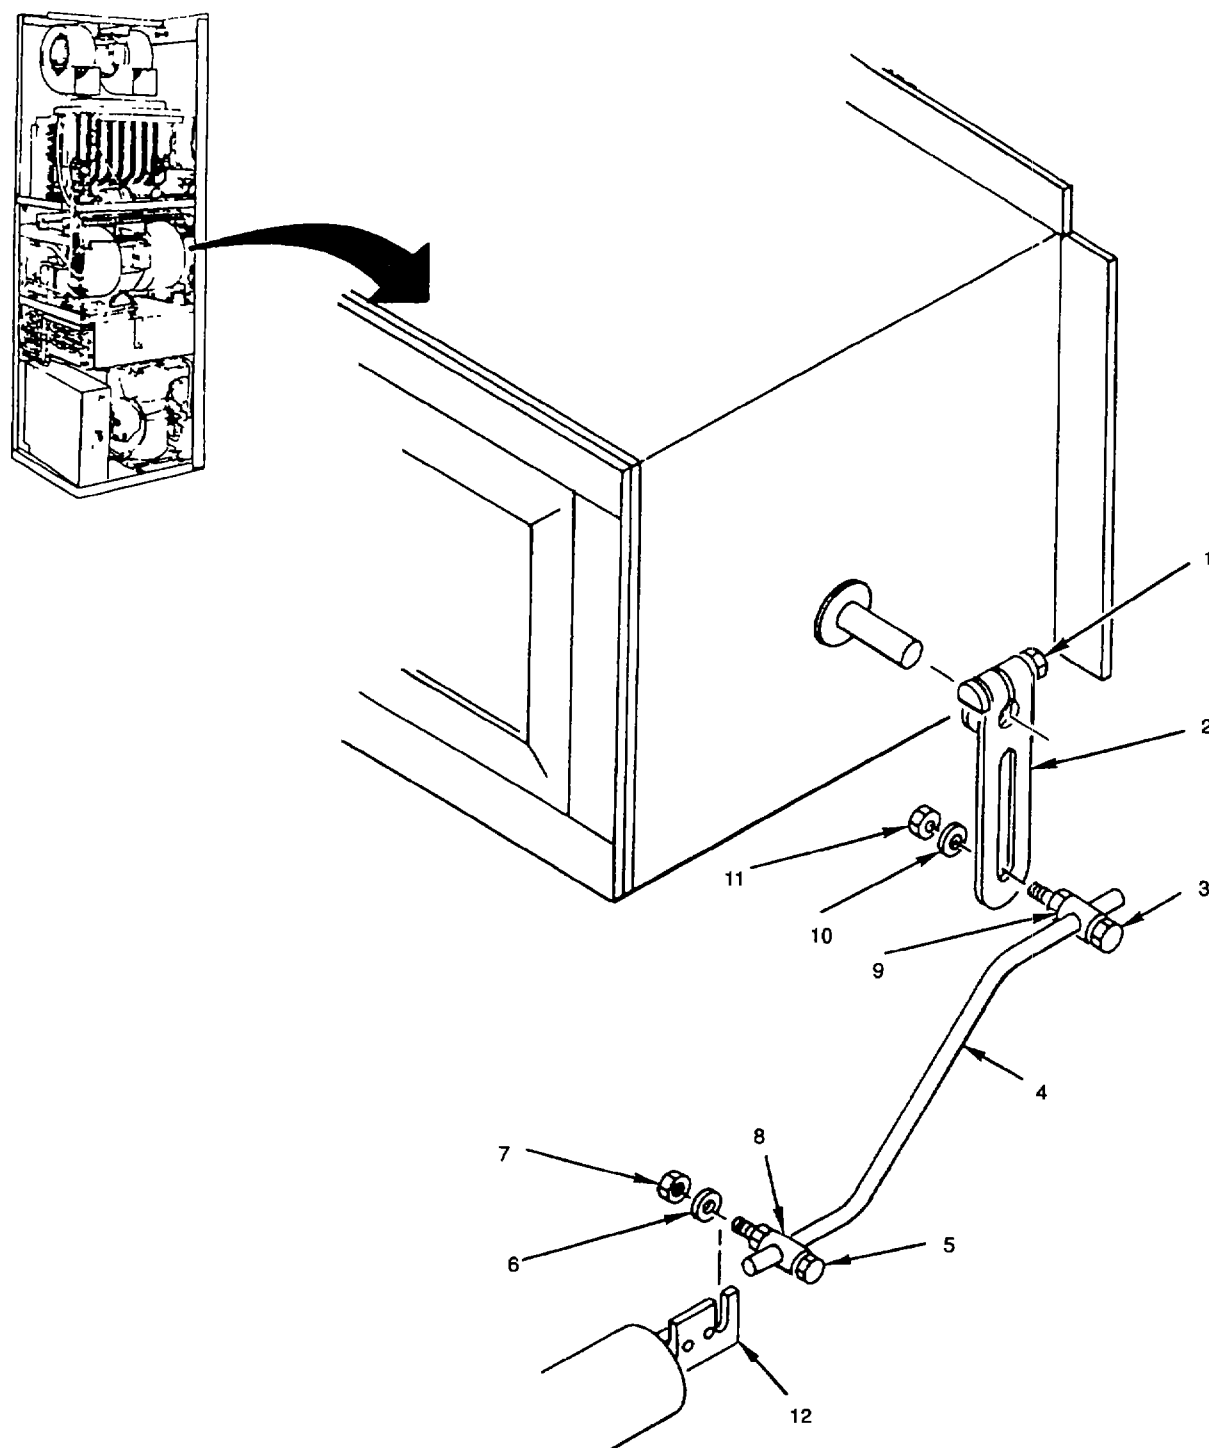

Figure 5-25. Damper Actuator Connecting Link
- (1) Disconnect air conditioner input power at source;
- (2) Remove condenser fan section panel (paragraph 4.23), and
- (3) Remove condenser motor and housing assembly (paragraph 4.49).
- a. Check that connecting link rod (4) is not bent or damaged (see fig. 5-25).
- b. Check that connector swivel (9), and damper operator (2) are not damaged.
- a. Close damper with damper adjustment actuator linkage nut (5) loose.
- c. Tighten damper adjustment actuator linkage nut (5).
- b. Loosen screw (5) on solenoid connector swivel (8).